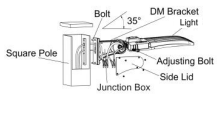
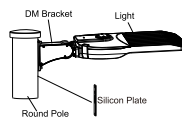

Figure 15
Figure 17
- Step 1: Fix DM bracket to square pole with bolt, open the side lid of DM bracket, pull the wire into junction box, and connect the wire correctly. (Figure 15)
- Notice: Adjustable angle is 0-35°(Figure 15). Same as round pole installation, please remember to remove the silicon plate when install the fixture in round pole (Figure 17)